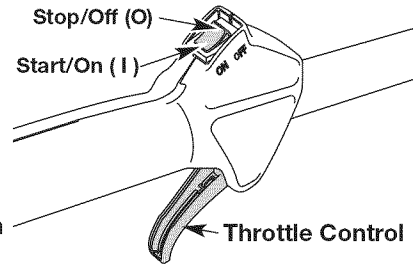

Fig. 2
**NOTE:** There is no need to turn the unit on. The On/Off Stop Control is in the ON (I) position at all times (Fig. 2).
2. Press and hold On/Off Stop Control in the OFF (O) position until engine comes to a complete stop (Fig. 2).